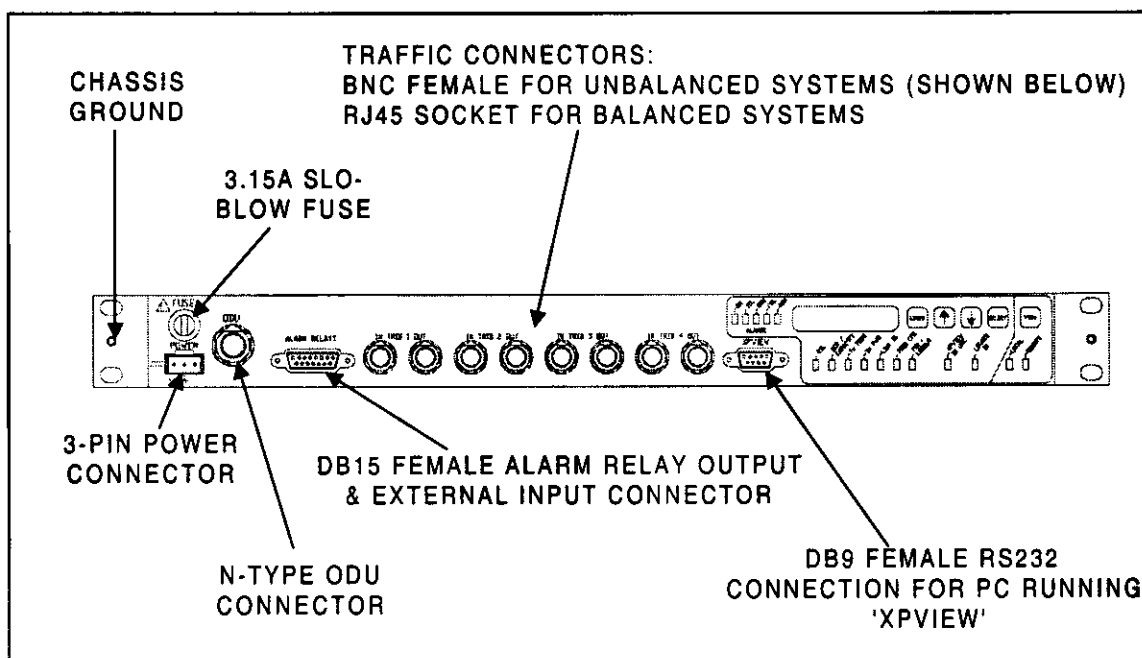

Figure 3-4. XP4 2x/4x IDU Connectors
- Lay in, secure with cable ties and terminate ground cable (at least 14 gauge wire recommended {1.5mm² conductor}) between IDU ground post and a nearby local grounding point. Refer to Figures 3-4, 3-5 and 3-8 for IDU ground post location.